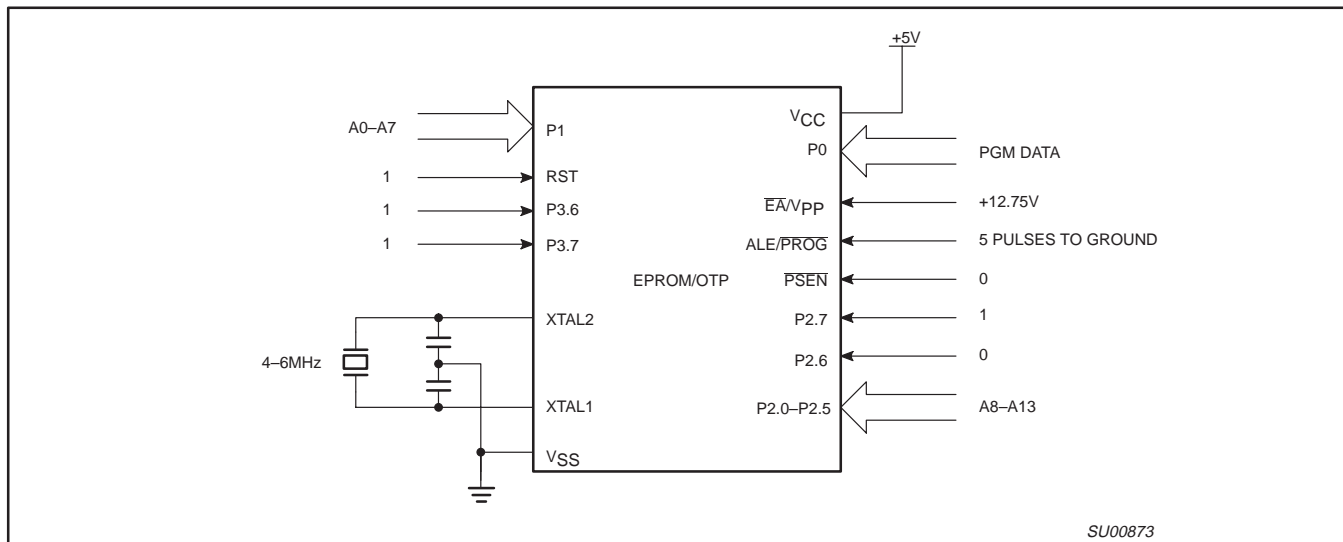
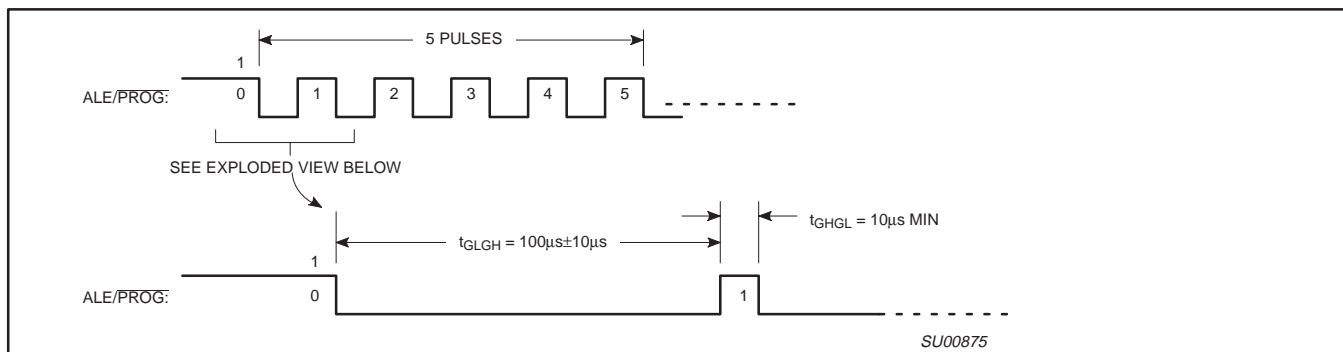
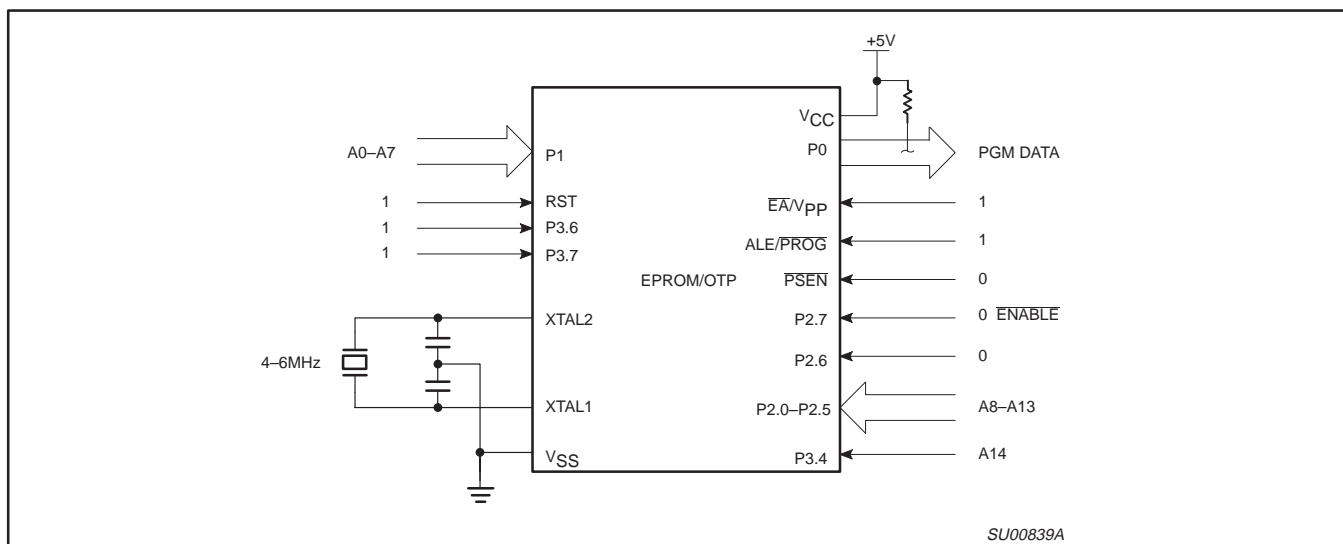

Figure 26. Programming Configuration
Figure 27. PROG Waveform
Figure 28. Program Verification
Table 8 shows the logic levels for reading the signature byte, and for programming the program memory, the encryption table, and the security bits. The circuit configuration and waveforms for quick-pulse programming are shown in Figures 26 and 27. Figure 28 shows the circuit configuration for normal program memory verification.
The setup for microcontroller quick-pulse programming is shown in Figure 26. Note that the device is running with a 4 to 6MHz oscillator. The reason the oscillator needs to be running is that the device is executing internal address and program data transfers.
The address of the EPROM location to be programmed is applied to ports 1 and 2, as shown in Figure 26. The code byte to be programmed into that location is applied to port 0. RST, \overline{PSEN} and pins of ports 2 and 3 specified in Table 8 are held at the 'Program Code Data' levels indicated in Table 8. The ALE/PROG is pulsed low 5 times as shown in Figure 27.
If security bits 2 and 3 have not been programmed, the on-chip program memory can be read out for program verification. The address of the program memory locations to be read is applied to ports 1 and 2 as shown in Figure 28. The other pins are held at the 'Verify Code Data' levels indicated in Table 8. The contents of the address location will be emitted on port 0. External pull-ups are required on port 0 for this operation.
- * FOR PROGRAMMING CONFIGURATION SEE FIGURE 26.
FOR VERIFICATION CONDITIONS SEE FIGURE 28.